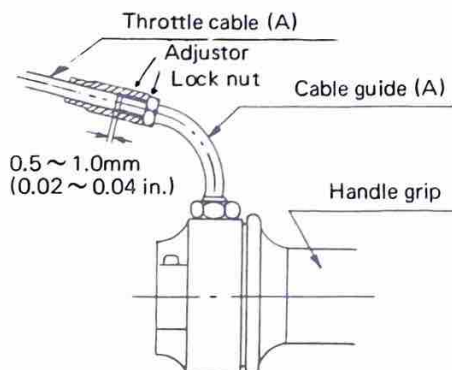

Fig. 2-3-6
- Next, adjust throttle cable (A) so that the gap as shown in Fig. 2-3-6 below will be between 0.5 and 1.0 mm. (0.02~0.04 in.)